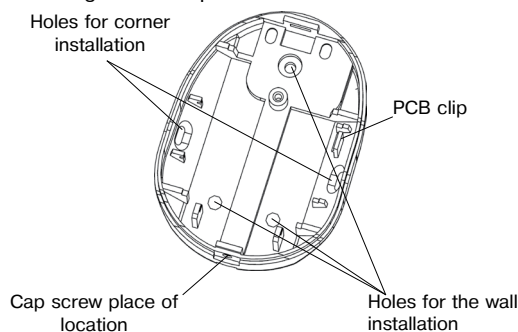

Figure 2
- push up the holder and remove the printed circuit board (PCB) (See Figure 2);
- drill the holes (Figure 2) in the base of the Detector case. They will be used for wire installation and fastening the Detector.